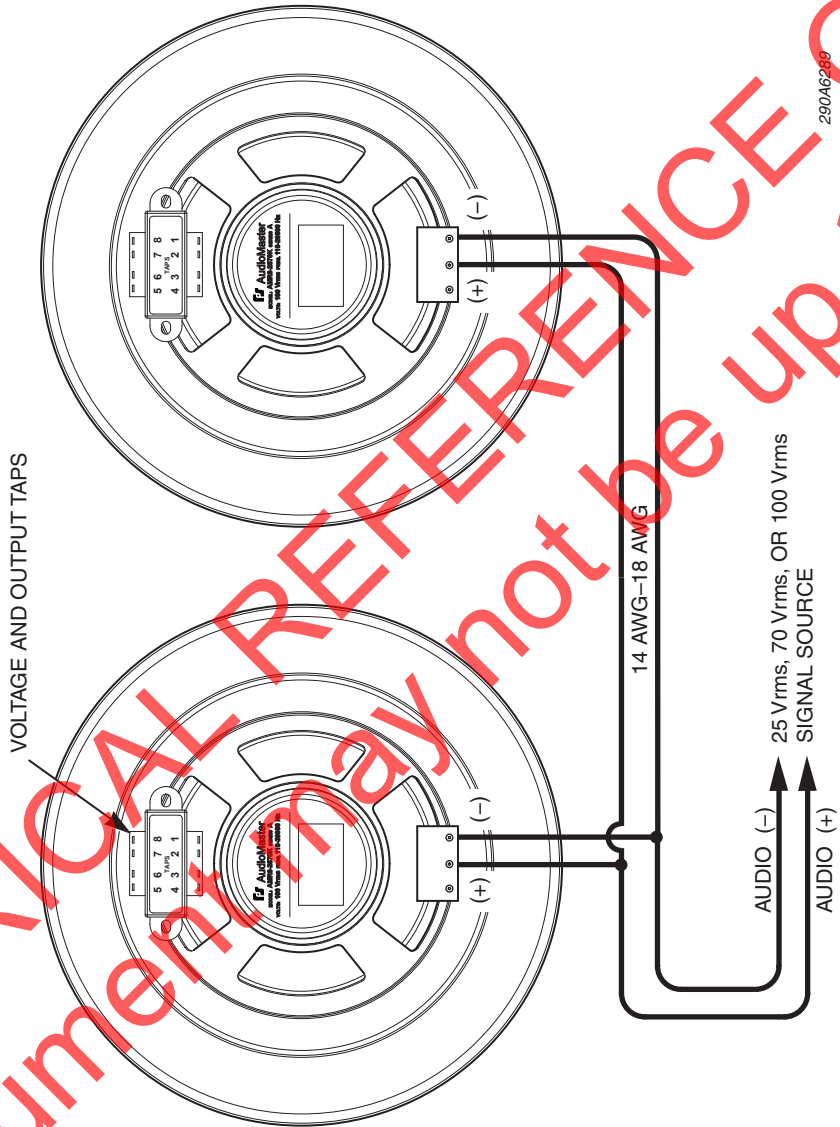

Figure 2. Speakers connected in parallel
Figure 2. Speakers connected in parallel	7
4. To connect speakers in parallel, see Figure 2 on page 7.